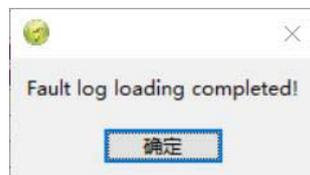

Figure 39. Load Completion Message Box
Step 3: Wait patiently for the fault log information to be loaded. When finished, a message dialog will pop up, click **OK** to end the reading action, as Figure 39.